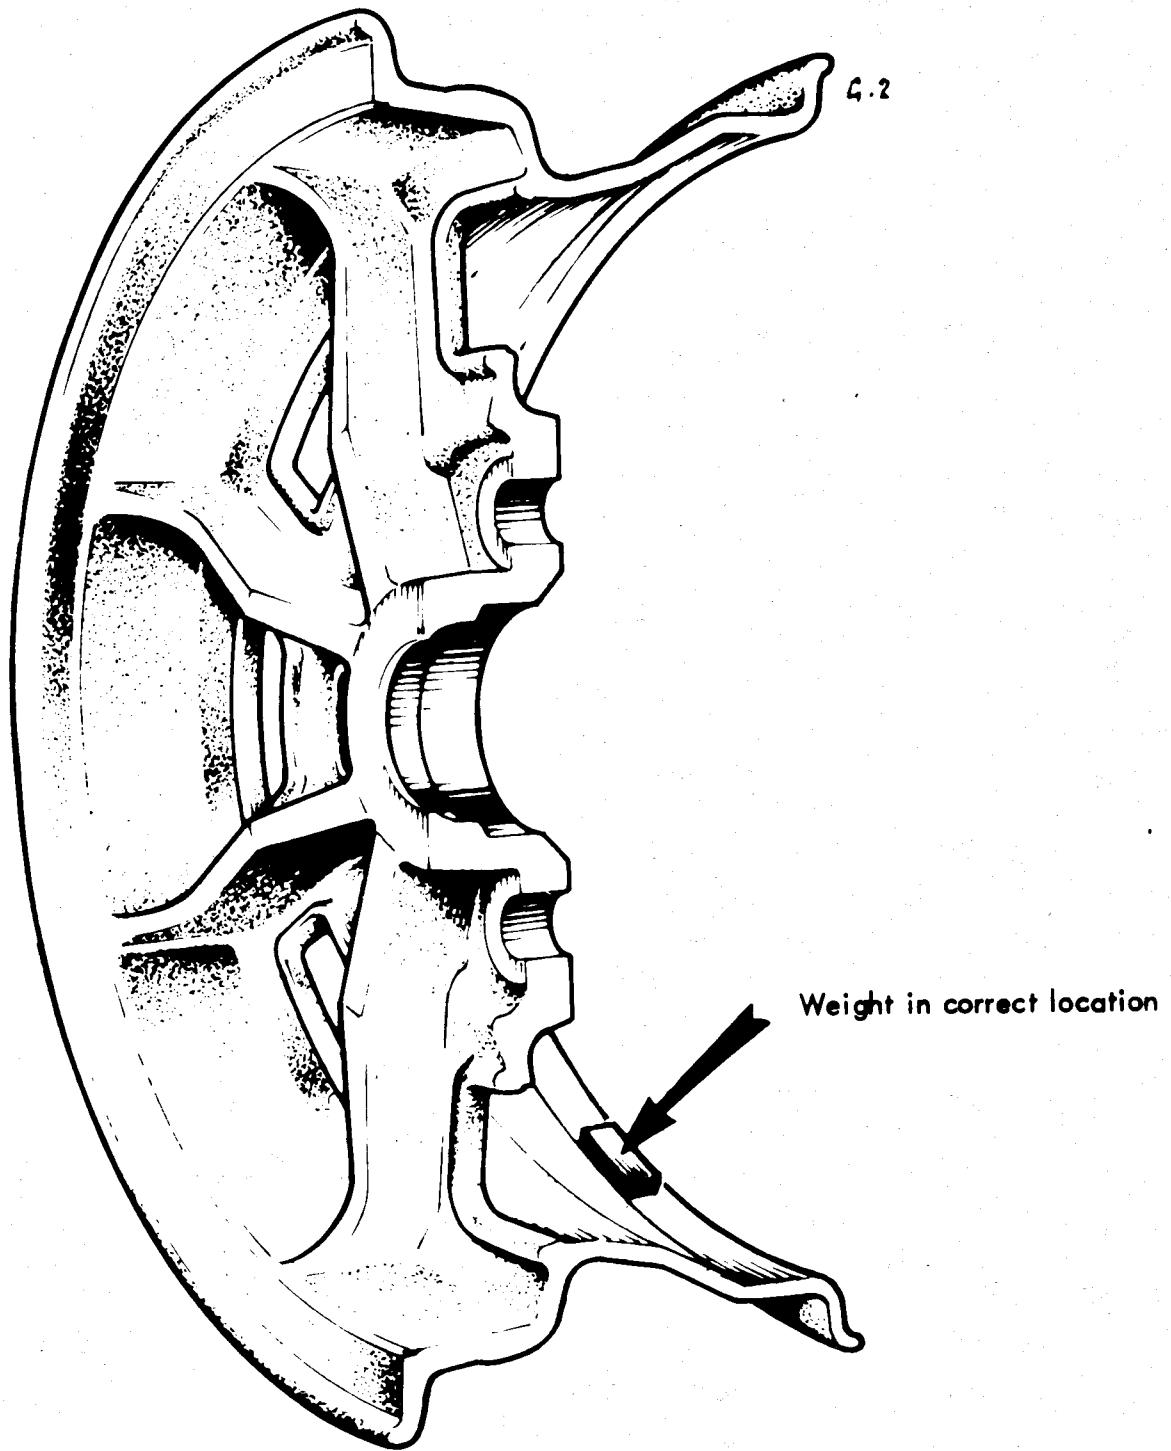

Fig. 1. ALLOY WHEEL SHOWING CORRECT LOCATION OF BALANCE WEIGHTS.
3. It is IMPORTANT that any balance weights are hard up against the corner radius of the wide part of the inside of the wheel (see Fig. 1.)